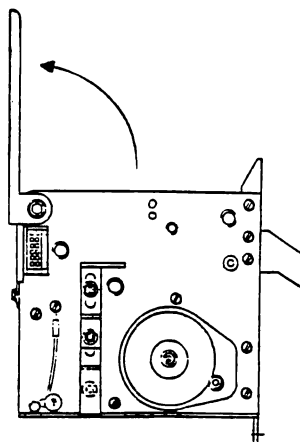
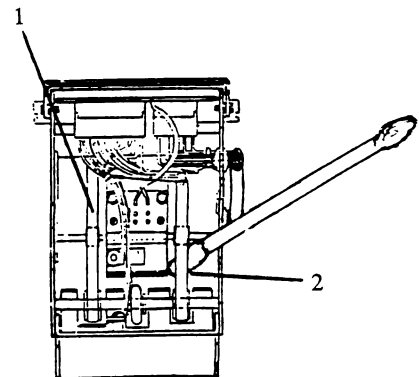

FIGURE 2
FIGURE 3
3. Open the acceptor cover as shown in Figure 2. With the acceptor motor still running, as above, apply isopropyl alcohol to the idler belts (outer side). See Figure 3, #1.
4. It is necessary to also clean the inner side of the idler belts. If the inside of the idler belts are oily, the idler belts may be driven off their rollers. In this procedure, it is necessary to place a Q-tip soaked with isopropyl alcohol underneath the idler belt (see Figure 3, #2).